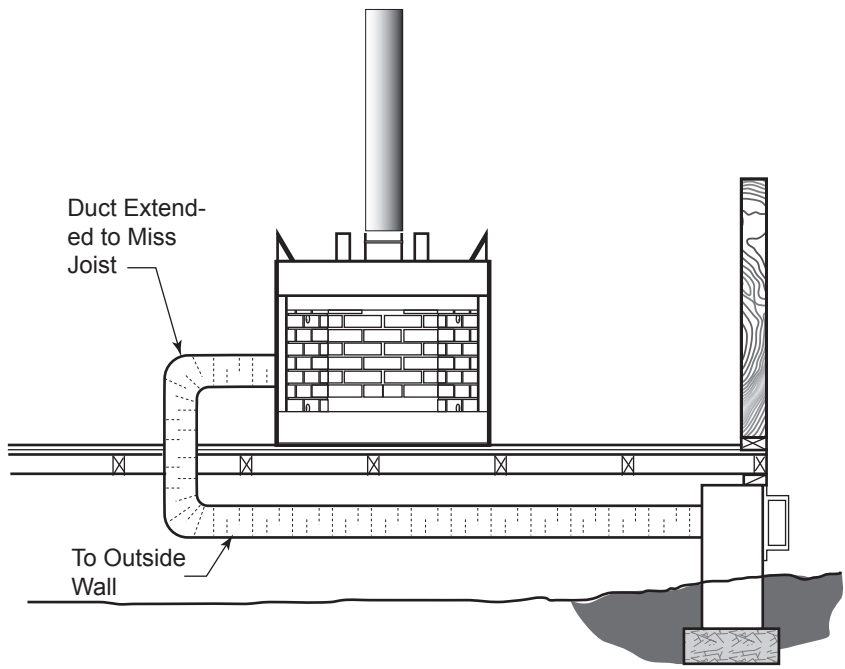

**Figure 10 -**
1. Avoid extremely long runs and numerous turns in duct leading from fireplace to combustion air assembly. These conditions increase the resistance to free flow of air through duct. *Figures 10 and 11*
4. Combustion air may be drawn from crawl space under house when adequate supply of air is provided by open ventilation. *Figure 10*